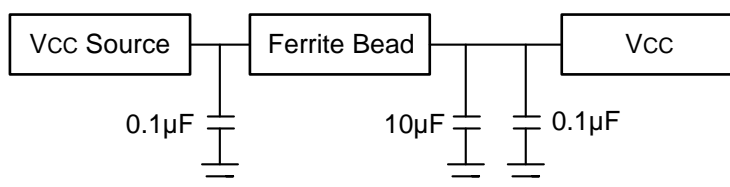

Figure 11. Filtering Noise with a Ferrite Bead
- Isolate the power planes of the clock driver from the power plane of the board by a ferrite bead. The ferrite blocks high frequency noise from reaching the main power supply. Use a non-resonant, surface-mount ferrite bead large enough to handle the current in series with the power supply and place a $10\mu\text{F}$ to $100\mu\text{F}$ bypass tantalum capacitor next to the ferrite bead (see Figure 11).